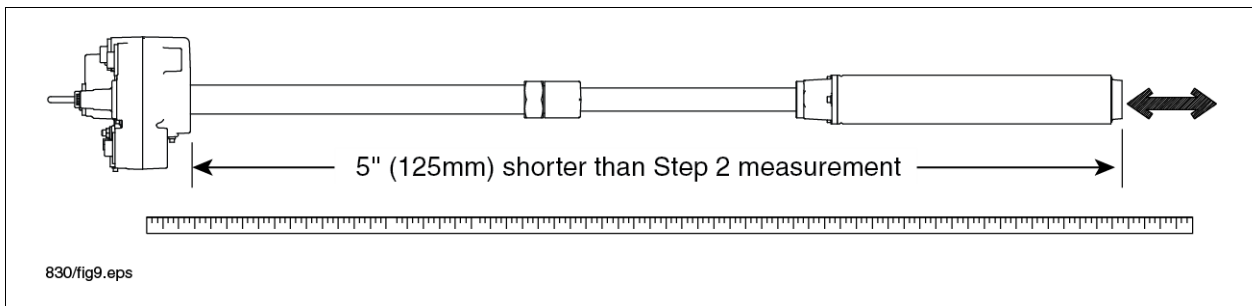

Figure 12. Adjusting Pump Length
5. Referencing Figure 12, pull the UMP end until the distance between the bottom of the manifold and the bottom of the UMP is 5 inches (125 mm) (15 inches [381 mm] for floating suction) shorter than the distance measured in Step 2.